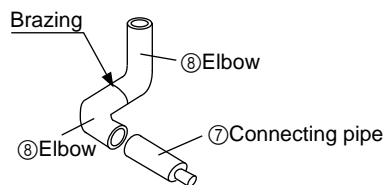

Fig. 1
- (1) Remove the copper cap and rubber packing attached to the piping and flange of the distributor (gas) (optional).
- (2) Assemble outside the unit with the elbow (⑧) in the specified shape and braze. (see Fig. 1.)